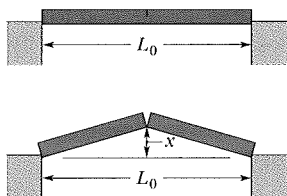

Fig. 18-31 Problem 21.
••21 SSM ILW As a result of a temperature rise of 32°C , a bar with a crack at its center buckles upward (Fig. 18-31). If the fixed distance L_0 is 3.77 m and the coefficient of linear expansion of the bar is $25 \times 10^{-6}/^\circ\text{C}$, find the rise x of the center.